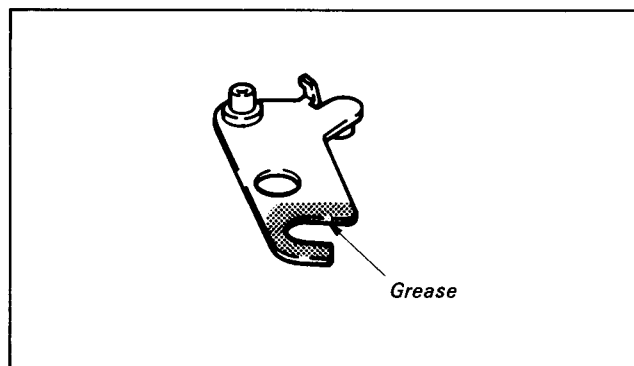

Fig. 8-35.
- 1) Oil half a drop of oil on the spindle (planetary roller spindle) of the L-SW assembly ⑨.
- 2) Remount the L-SW assembly ⑨ and tighten two screws ⑧.
- 3) Reconnect the connector ⑦.
- 4) Operate the mode selector and check that the L-SW assembly ⑨ rotates.
- 5) Oil half a drop of oil on the spindle ⑩.
- 6) Grease the drive changer assembly ⑥. (See Fig. 8-35.)